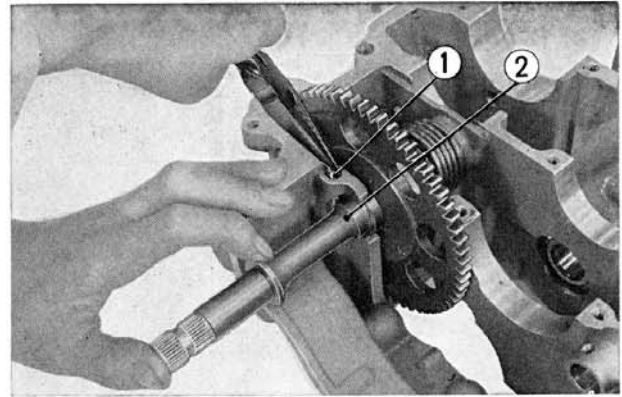

Fig. 3-92 ① Kick starter shaft stopper pin
3. Remove the kick starter shaft stopper pin and remove the kick starter shaft. (Fig. 3-92)